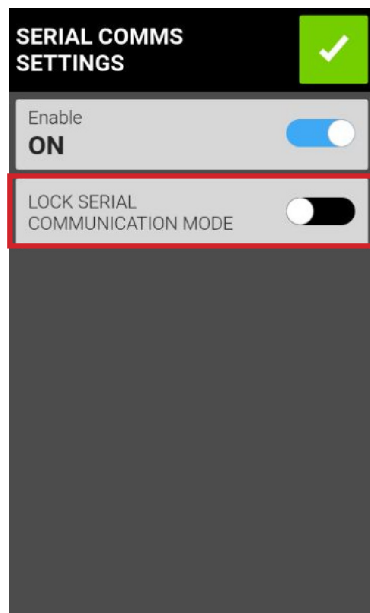

Figure 10: Lock Serial Communication Mode
- Activating **Lock Serial Communication Mode** restricts interactions with the pumps touch screen, ensuring the configurations remain fixed (see Figure 10)